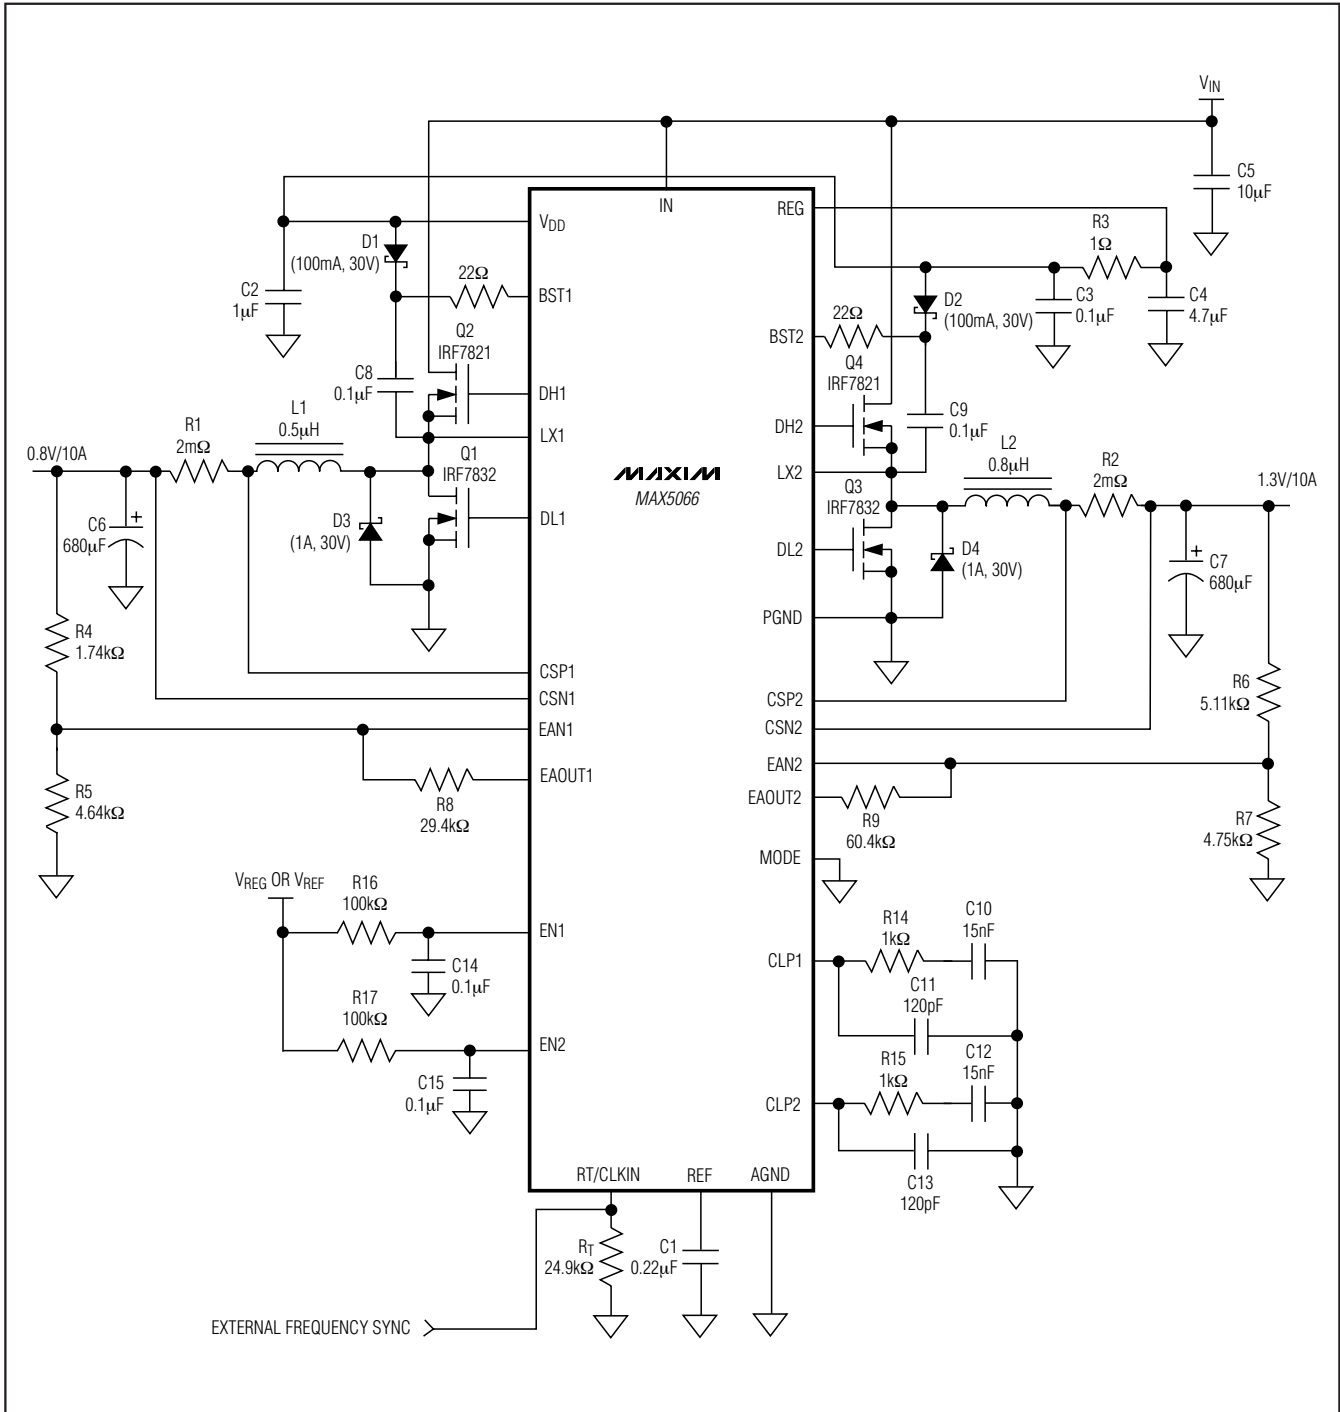

Figure 6. Dual-Output Buck Regulator
where IIN is the quiescent supply current into IN (4mA, typ), QGQ1, QGQ2, QGQ3, QGQ4 are the total gate charges of MOSFETs Q1 through Q4 at VGS = 5V (see Figure 6), and fSW is the switching frequency of each individual phase.
diodes D1 and D2 (see Figure 6). Connect a 0.1μF ceramic capacitor between BST_ and LX_.
Minimize the trace inductance from BST_ and VDD to rectifier diodes, D1 and D2, and from BST_ and LX_ to the boost capacitors, C8 and C9 (see Figure 6). This is accomplished by using short, wide trace lengths.
The compensation network at the current-error amplifiers (CLP1 and CLP2) provides an inherent soft-start of the output voltage. It includes (R14 and C10) in parallel with C11 at CLP1 and (R15 and C12) in parallel with C13 at CLP2 (see Figure 6). The voltage at the current-error amplifier output limits the maximum current available to charge the output capacitors. The capacitor at CLP_ in conjunction with the finite output-drive current of the current-error amplifier yields a finite rise time for the output current and thus the output voltage.
An internal oscillator generates the 180° out-of-phase clock signals required for both PWM modulators. The oscillator also generates the 2Vp-p voltage ramps necessary for the PWM comparators. The oscillator frequency can be set from 200kHz to 2MHz by an external resistor (RT) connected from RT/CLKIN to AGND (see Figure 6). The equation below shows the relationship between RT and the switching frequency:
output, voltage-regulating applications where the duty cycle is less than 50%, choose high-side MOSFETs (Q2 and Q4, Figure 6) with a moderate $R_{DS(ON)}$ and a very low gate charge. Choose low-side MOSFETs (Q1 and Q3, Figure 6) with very low $R_{DS(ON)}$ and moderate gate charge. The driver block also includes a logic circuit that provides an adaptive nonoverlap time (30ns typical) to
where I_{MAX} is the full load current of the regulator. V_{OUT} is the output voltage of the same regulator and C_{IN} is C5 in Figure 6. The ESR of the input capacitors wastes power from the input and heats up the capacitor. Reducing the ESR is important to maintain a high overall efficiency and in reducing the heating of the capacitors.
where I_{LOAD_STEP} is the step in load current and $t_{RESPONSE}$ is the response time of the controller. Controller response time depends on the control-loop bandwidth. C_{OUT} is C6 and C7 in Figure 6.
where ΔV_{OUT} is the allowable drop in voltage from no load to full load. R_F is R8 and R9, R1 is R4 and R6, R2 is R5 and R7 in Figure 6.
For stability of the current loop, the amplified inductor-current downslope at the negative input of the PWM comparator (CPWM1 and CPWM2) must not exceed the ramp slope at the comparator's positive input. This puts an upper limit on the current-error amplifier gain at the switching frequency. The inductor current downslope is given by V_{OUT}/L where L is the value of the inductor (L1 and L2 in Figure 6) and V_{OUT} is the output voltage. The amplified inductor current downslope at the negative input of the PWM comparator is given by:
where R_{SENSE} is the current-sense resistor (R1 and R2 in Figure 6) and g_M × R_{CF} is the gain of the current-error amplifier (CEA₁) at the switching frequency. The slope of the ramp at the positive input of the PWM comparator is 2V × f_{SW}. Use the following equation to calculate the maximum value of R_{CF} (R14 or R15 in Figure 6).
where C_{CF} is C10 and C12 in Figure 6.
where C_{CFF} is C11 and C13 in Figure 6.